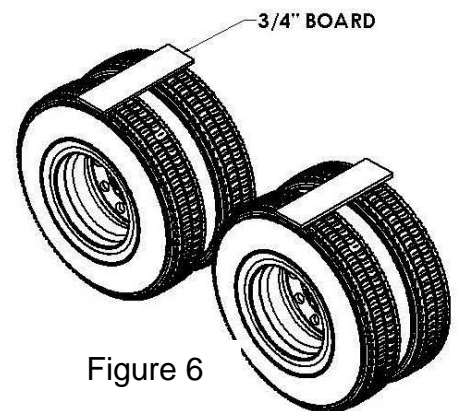

Figure 6
- For an air suspension system, place a  $\frac{3}{4}$ " board on top of the tires after the air has been let out of the airbags (Figure 6). Place the fender on top of the board.